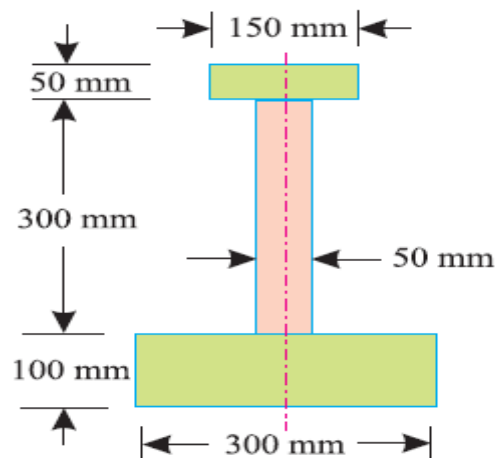

Fig.19
9. An I-section as shown in Fig.19 has the following dimensions in mm units: